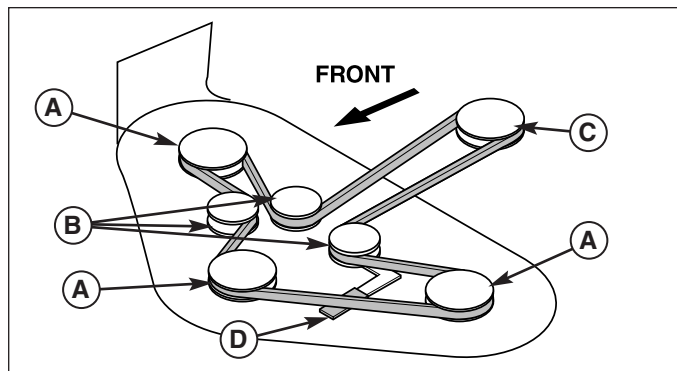

Figure 26. Mower Belt Routing
3. Raise the mower deck to transport position. Use the lever (D, Figure 26) to release tension on the mower belt and remove the belt from the PTO pulley (C).
4. Remove the old drive belt and install the new one as shown in Figure 26. Note that the back of the drive belt must ride against the back-side idler pulleys (B). Use the belt tension lever (D) to release tension on the idler pulley for installation.